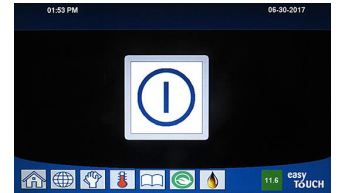

Figure 16
1. Ensure all controllers are OFF and in the standby mode (see Figure 16).